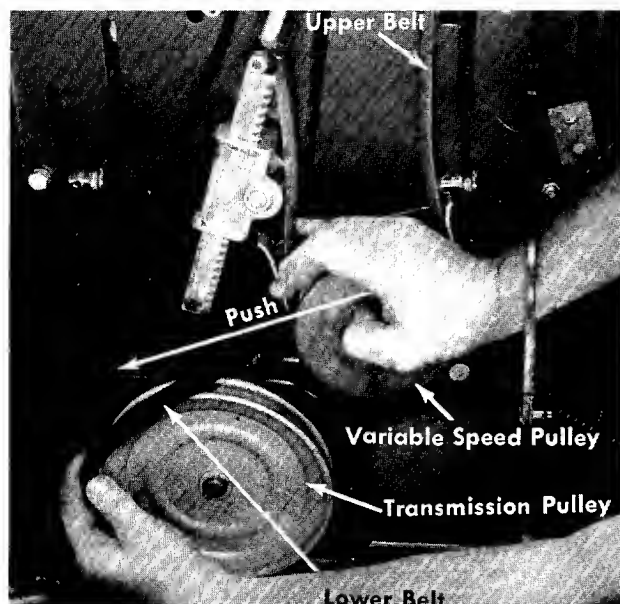

FIGURE 33.
- Step 8. Remove the engine belt guard by removing the two front engine mounting bolts. See figure 33.
- Step 10. While pushing the variable speed pulley towards the center of the rider, remove the lower belt from the transmission pulley. See figure 33.